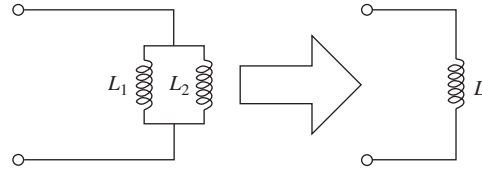

Figure P2.12 Parallel combination of two inductors.
- 2-12.** The equivalent inductance L of two inductors connected in parallel as shown in Fig. P2.12 is given by